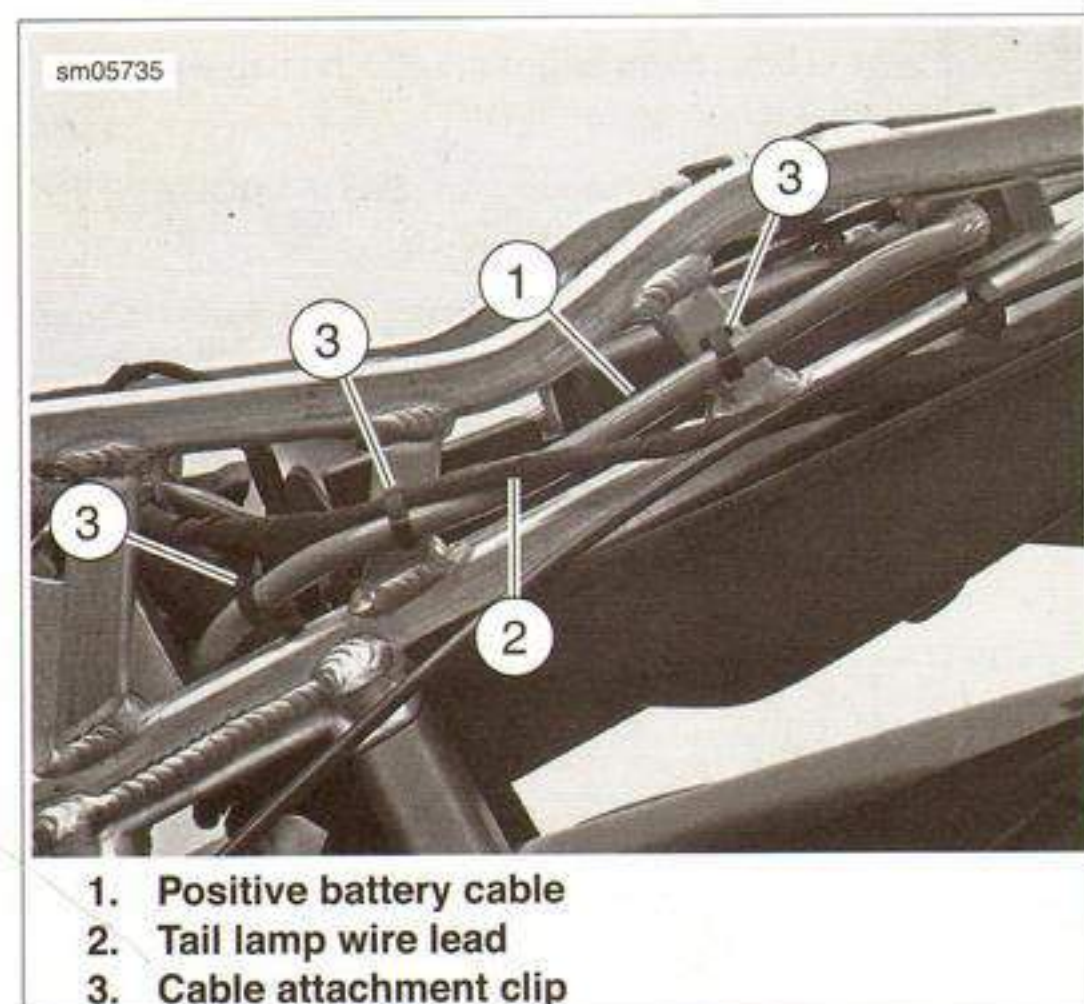

Figure 7-17. Positive Battery Cable Routing
7. See Figure 7-17. Pull the cable attachment clips to remove the positive battery cable from the side of the subframe.